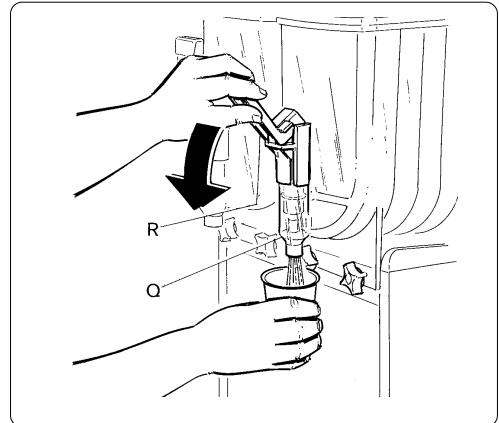

Fig. 12
a) To dispense the product, position the cup underneath the tap (Q) and lower the lever (R) very slowly (fig. 12).